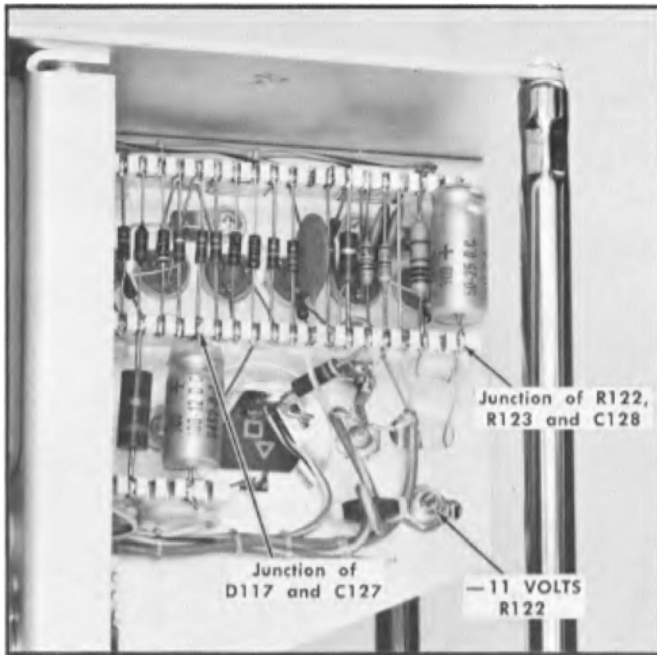

Fig. 6-4. Location of R122, R123 and C128 junction, -11 VOLTS R122 control, and the junction of D117 and C127.
- d. Connect the negative lead of the DC voltmeter to the junction of R122, R123 and C128; see Fig. 6-4.
e. Adjust -11 VOLTS control, R122 (see Fig. 6-4) until about a -11 volt reading is obtained on the DC voltmeter.
- b. Connect the positive lead of the DC voltmeter to the junction of D117 and C127; see Fig. 6-4.
- b. Connect a 1X probe from the test oscilloscope to the junction of R122, R123 and C128; see Fig. 6-4.
- j. Change the 1X probe connection to the junction of D117 and C127; see Fig. 6-4.
- i. Adjust the —11 VOLTS control (see Fig. 6-4) to obtain a test oscilloscope display of exactly 5 divisions.